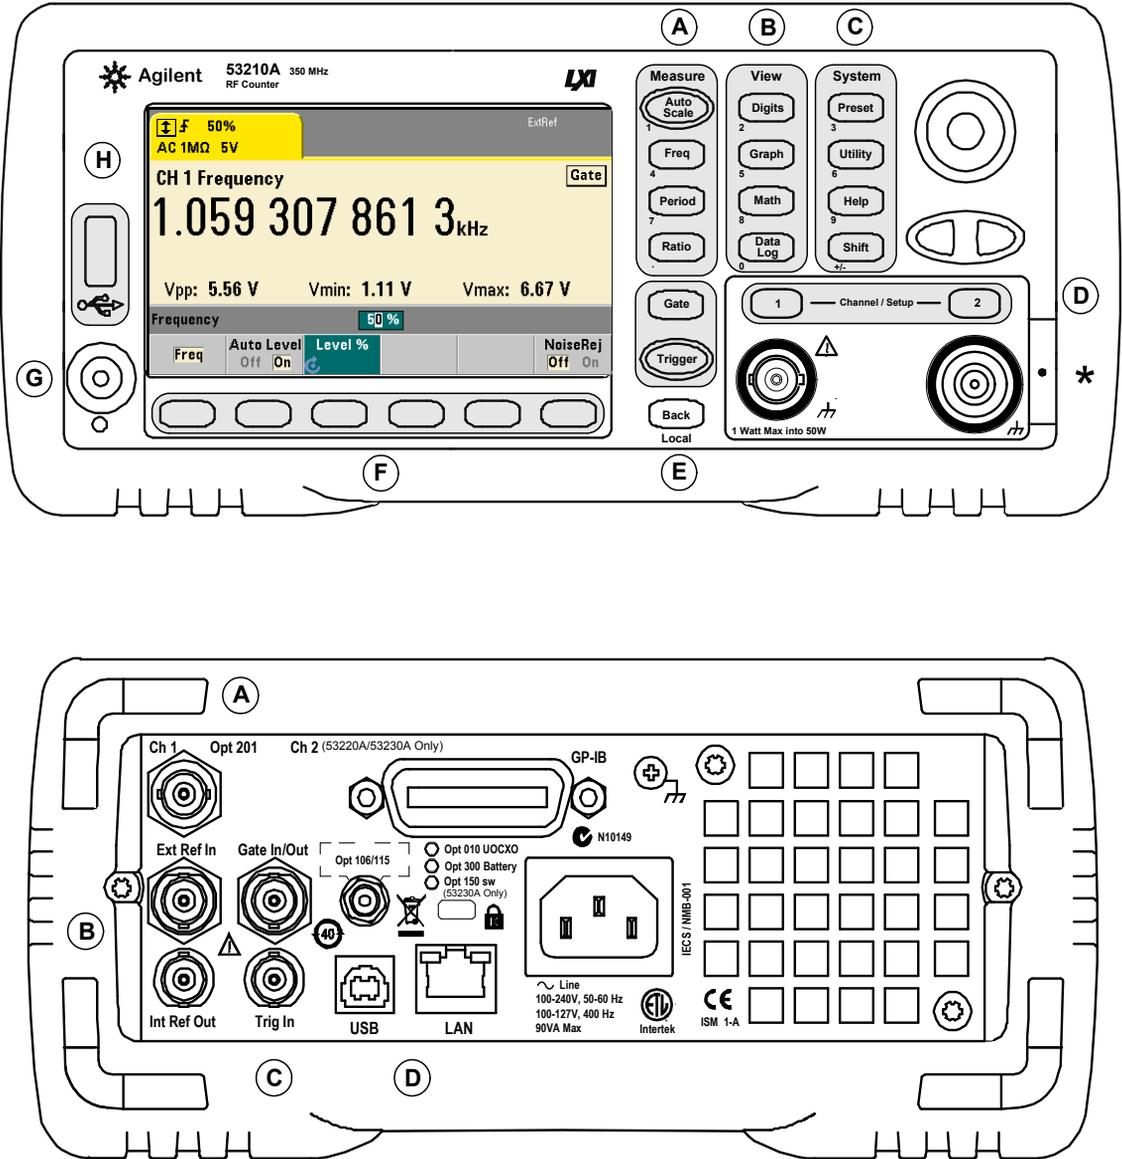

Figure 1-1. The 53210A Universal Frequency Counter/Timer.
Figure 1-1 shows the front and rear panels of the Keysight 53210A 350 MHz RF Counter.
**D. Channel Keys** - select the input channel and displays the soft key menu used to configure the input signal path. Note that Figure 1-1 includes Channel 3 Option 106 / 115. Signal path configuration is covered in **Chapter 4**.
The 53210A rear panel shown in Figure 1-1 includes product Option 201 (parallel rear panel input) and GPIB interface. The rear panel terminals are briefly described below.